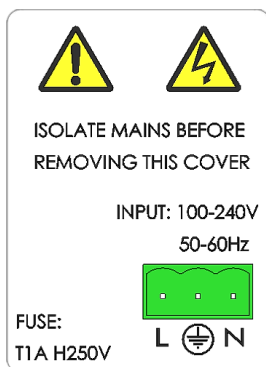

Fig. 4: Power supply label (mains).
A label on the internal PSU cover indicates the model, voltage, and fuse type (see **Fig. 4** on page **12** for an example). Connect only to a power supply with a voltage corresponding to that on the rating plate (on the sensor enclosure).
2. Note the label on the power supply cover (see **Fig. 4** below).